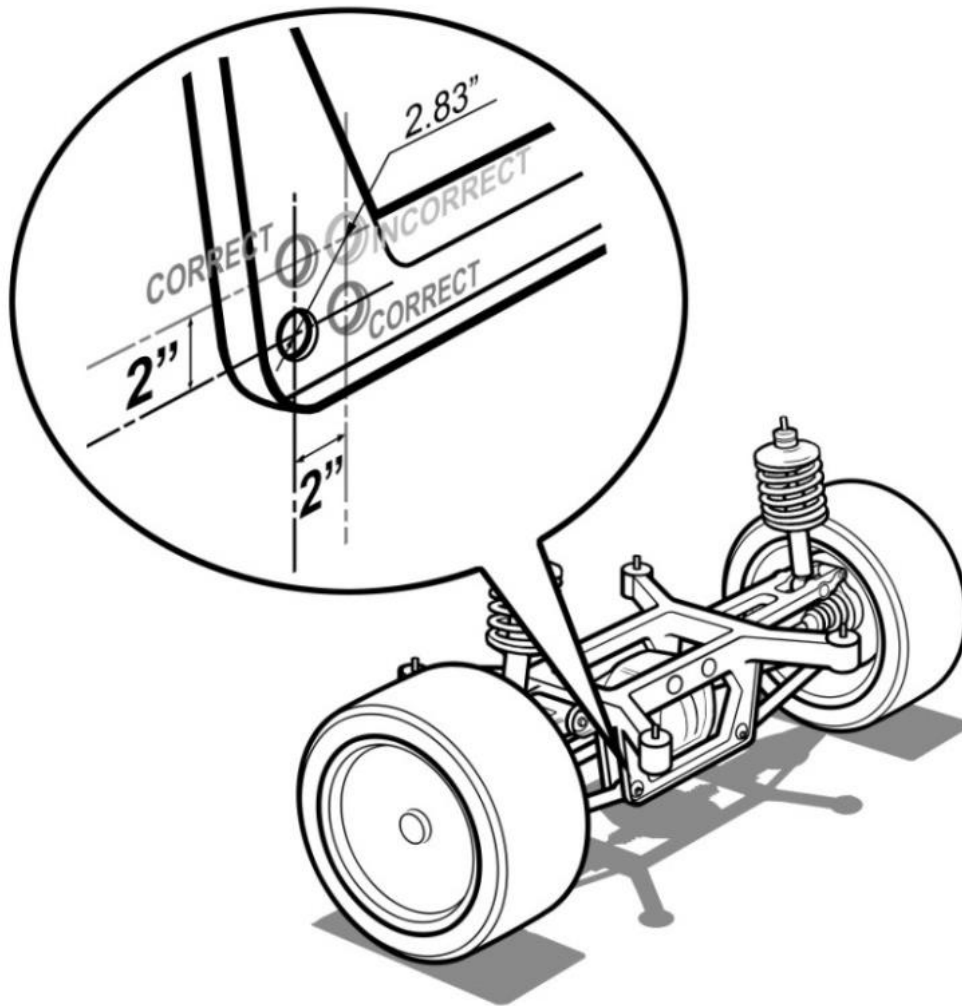

Figure 8
- I. This will be measured center to center from the original pivot point to the new pivot point. Please refer to Figure 8. This rule only applies to vehicles with a rear subframe